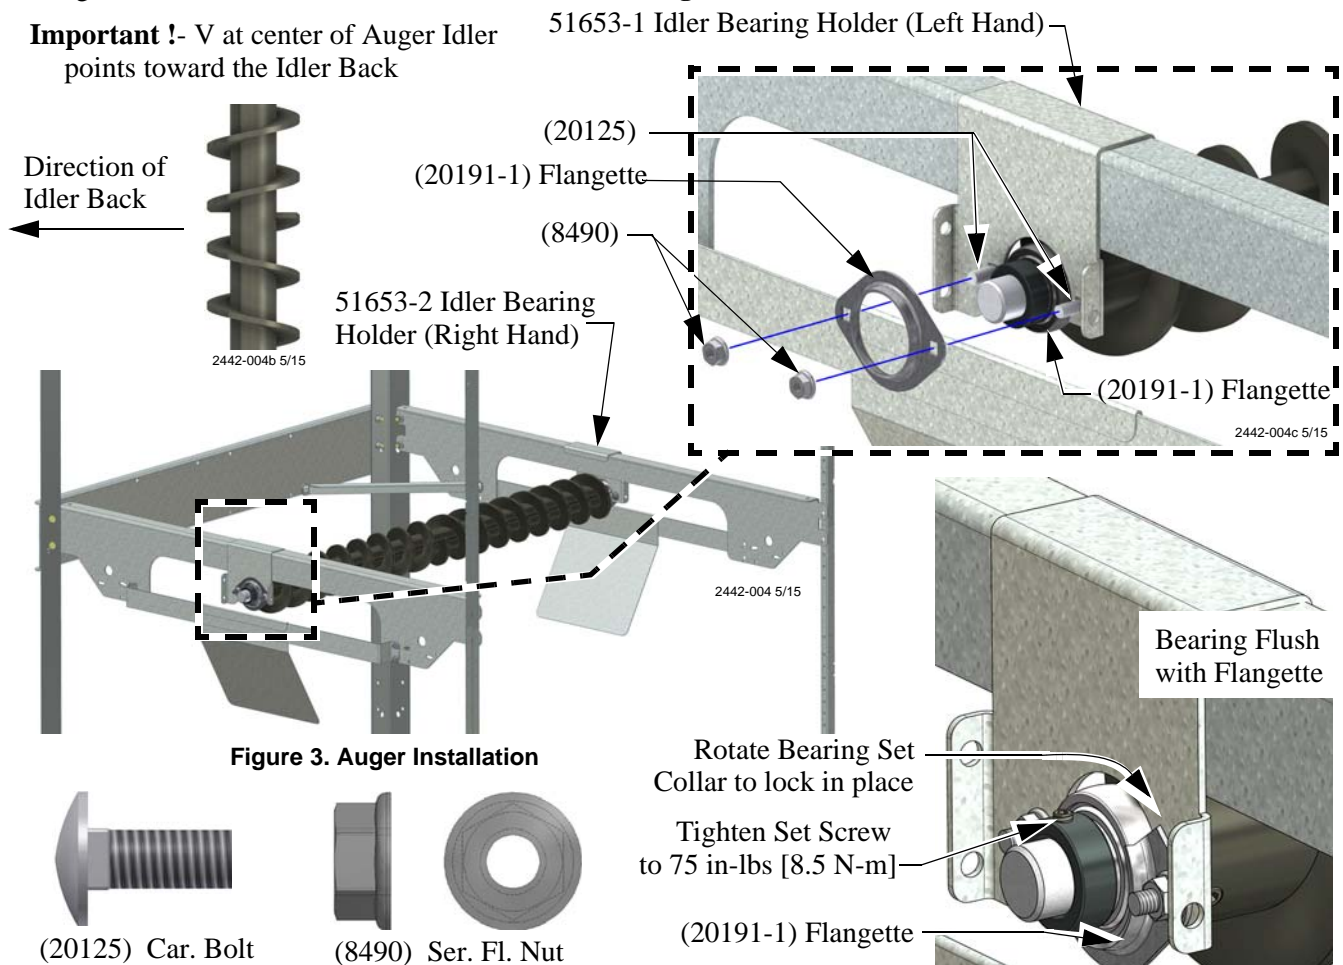

Figure 3. Auger Installation
- 3.Hang the Idler Bearing Holders (51653-1 and 51653-2) on the Rails (**See Figure 3.**)
- 7.Tighten the Set Screws to 75 in-lbs [8.5 N-m] (**See Figure 3.**).